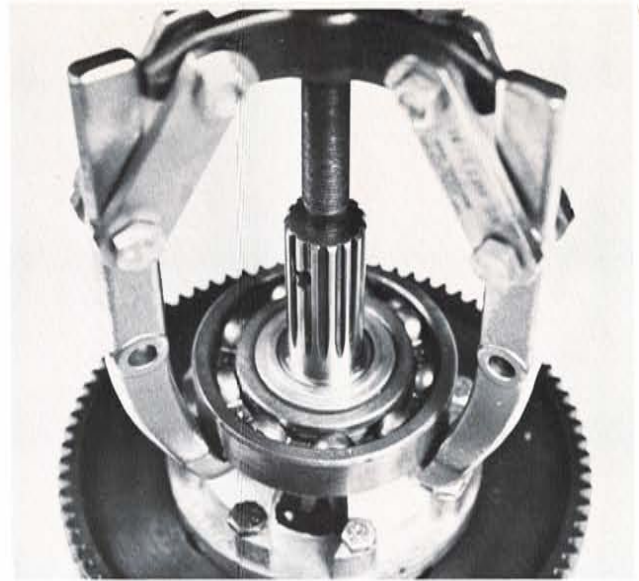

Fig 13
12. Remove differential bearings. (Fig 13)